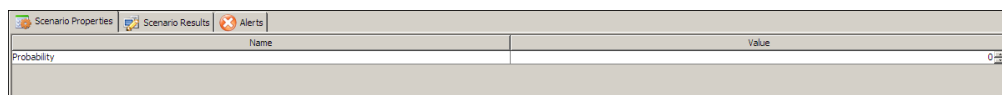

Figure 16: Assign Probability
1. If any decision node is used in the process flow, you can assign the probability for each possibility of the decision node. To assign the probability, double-click the sequence coming out of the decision node. Properties of the sequence flow are shown in *Scenario Properties* panel (see Figure 16).